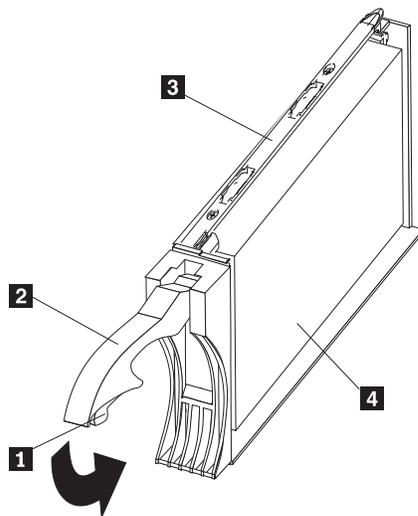

Figure 42. Drive latch on a hot-swap drive
- a. Press on the inside of the bottom of the tray handle to release the blue latch **1**. See Figure 42.